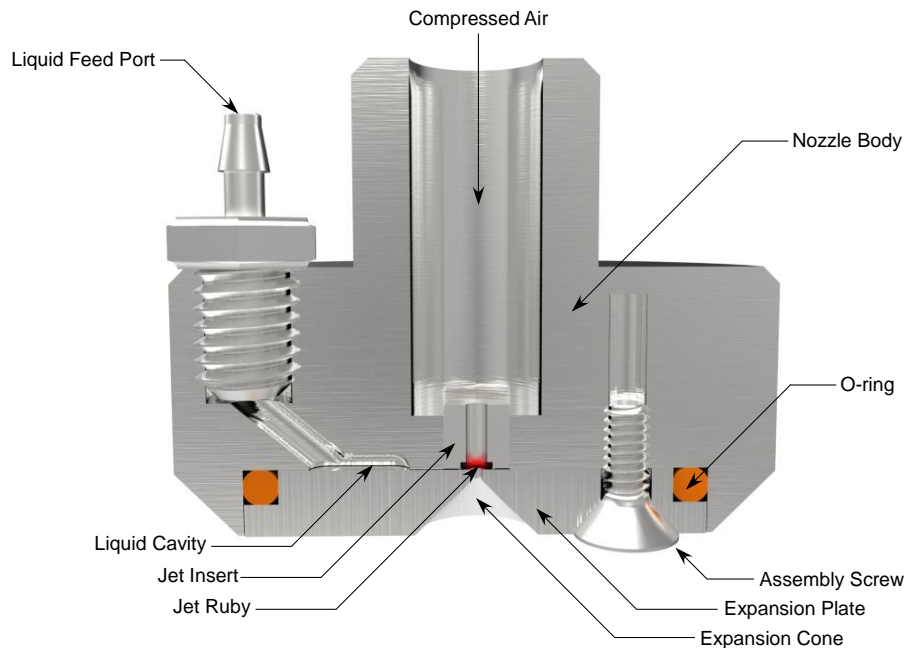

Figure 1. Components of Single Jet BLAM's Atomizing Nozzle
Knowledge of the mechanism of aerosol formation by the BLAM will help you in determining the aerosol characteristics as well as being useful for maintenance. The atomizing head at the end of the air supply stem is the key to aerosol formation. It is composed of two main parts: Nozzle Body and Expansion Plate (Figure 1).
5. Remove and carefully inspect the O-ring that seal the expansion plate against the nozzle body (refer to Figure 1 for details). If it show signs of damage, replace it a spare O-ring from the accessories kit supplied with the BLAM.